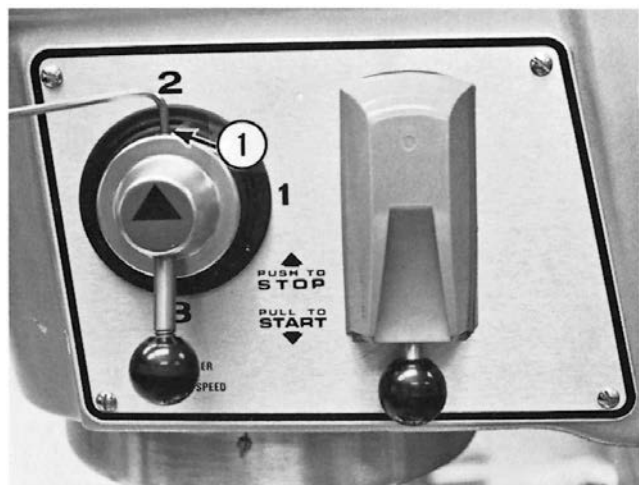

Fig. 3-8
- G. Position shifter handle in second gear. Loosen set screw (1, Fig. 3-8) and remove handle.
- K. Install shifter handle (Fig. 3-8).